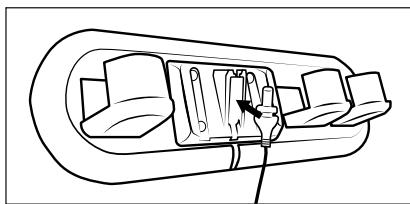

Fig. 4
- 1) Remove the wall bracket 17 from the accessories holder 16. Insert the barrel plug 10 of the mains adapter 9 into the wall bracket 17 as shown in the illustration below. Secure the barrel plug 10 by turning it (see Fig. 4).